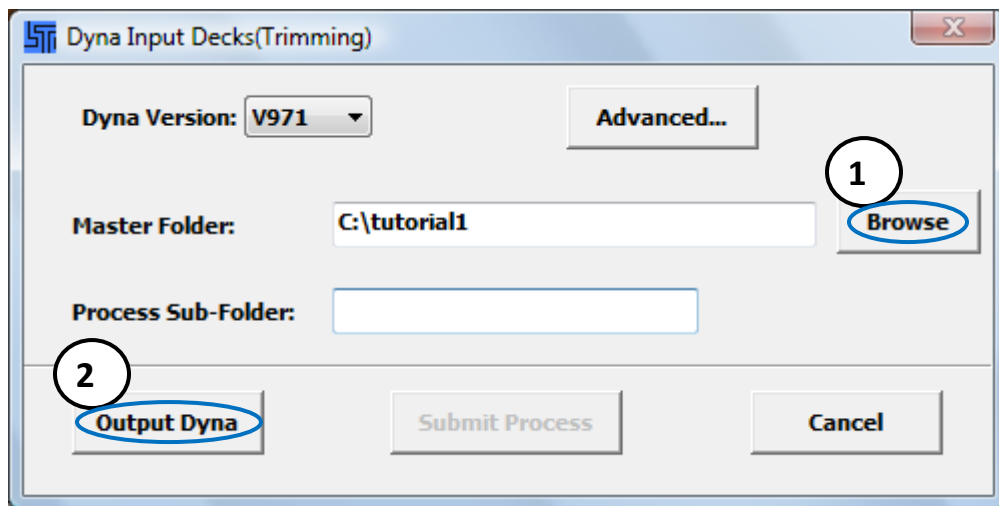

Figure 10
6. Output LS-Dyna input decks (Figures 10)